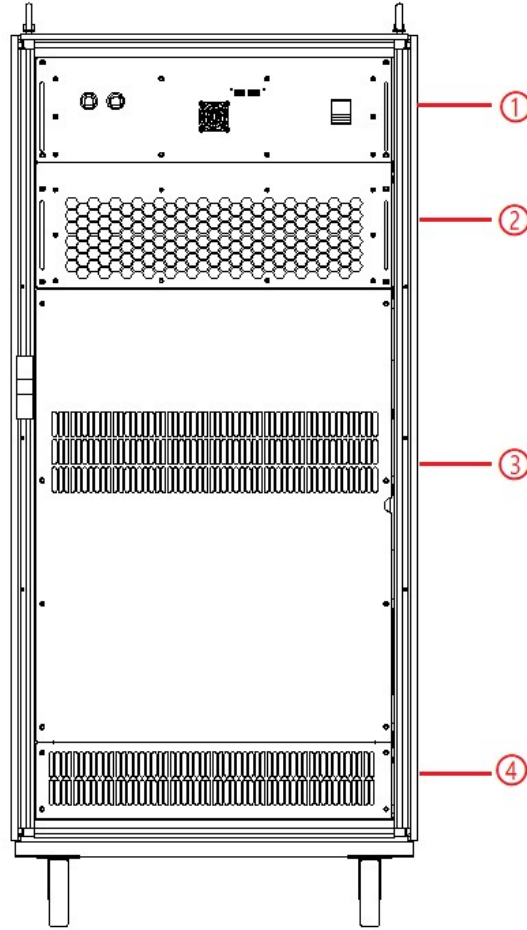

Figure 1-4 Internal structure
As shown in Figure 1-4, take ESD 50-400-125-R as an example, from top to bottom, the internal modules of ESD series are: ① control box layer, ② module layer, ③ input and output component layer, ④ wiring layer and other interface layers.